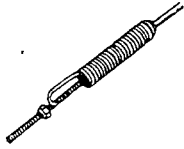

FIGURE 16
- For initial settings place the nuts on the cables half way up the threaded portion. See figure 16.